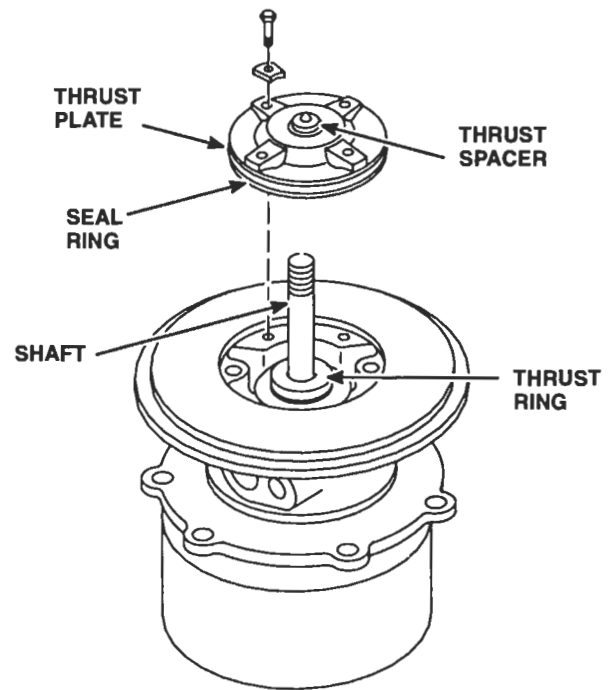

Figure 30. Installing Thrust Plate in Center Housing
9. Place the center housing backplate or thrust plate, less the thrust spacer and the rubber seal ring, over the shaft with the bolt holes and the oil hole in the under side of the backplate or thrust plate in alignment with the oil and bolt holes in the center housing (Figure 30.)